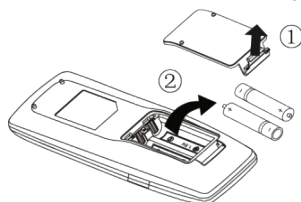

Fig.1
- (1). Lift the cover along the direction of arrow (as shown in Fig 1 ①).
- (2). Take out the original batteries (as shown in Fig 1 ②).